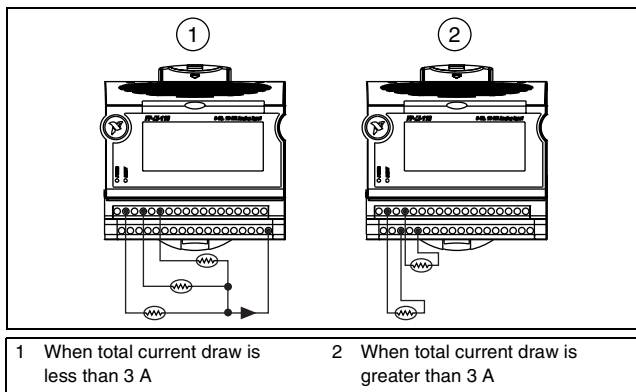

Figure 10. Connecting Power for Current Draws Below and Above 3 A
- When total current draw is less than 3 A, you can use a single terminal for the return path. If the total current draw is greater than 3 A, you should use separate C terminals, as shown in Figure 10.